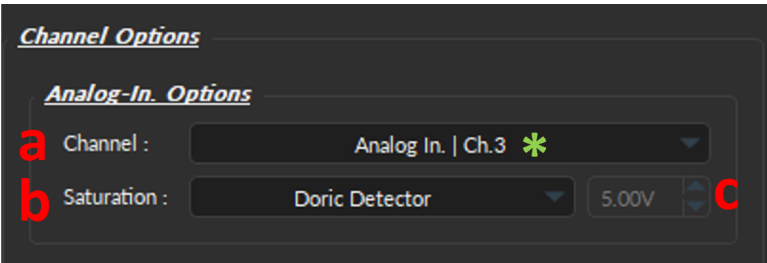
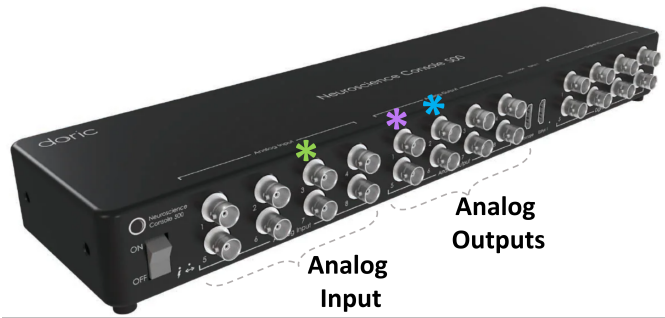

Figure 11.83: LockIn, Channel Options
Figure 11.84: LockIn, NC500 ports
- a) The **Channel** (Fig. 11.83, a) identifies which of the NC500 ports receives the **analog input** data from the sensor/device (Fig. 11.84).
- b) The **Saturation** (Fig. 11.83, b) specifies the detectors used to collect the **Analog Input** data and automatically set its corresponding **Maximal Voltage** value (Fig. 11.83, c) that saturates it. Choosing the right detector is important as different detectors are saturated at different voltage levels (Table 11.2). If none of the common detectors are collecting data, use the **AIn** option to set the **NC500 Maximum Voltage** (10V), or the **Custom** option to set it between 0V and 10V.
- c) The **Maximum Voltage** (Fig. 11.83, c) displays the values at which preset detectors are saturated (Table 11.2). This value is used to warn users when the collected signal is saturating the detector, as in Fig. 11.18.